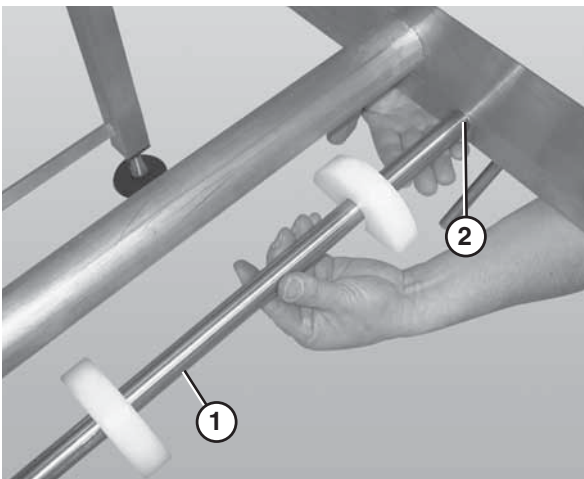

Figure 52
1. Remove the belt returns by pushing up on the return shaft (**Figure 52, item 1**) and sliding it through the large hole (**Figure 52, item 2**) in the frame.
2. Lower the opposite end of the return shaft (**Figure 52, item 1**) and slide it out of the frame.